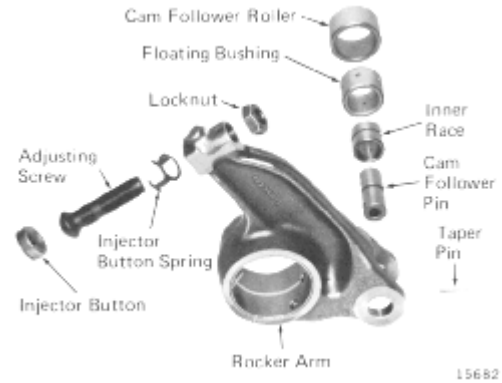

Fig. 2-30 - Injector Rocker Ann, Exploded View
1. Inspect the rocker arm bushings, cam follower rollers, inner race, Fig. 2-30, and rocker arm shaft for evidence of heat discoloration, excessive wear, shelling or scuffing due to lack of lubrication and for fatigue cracks.